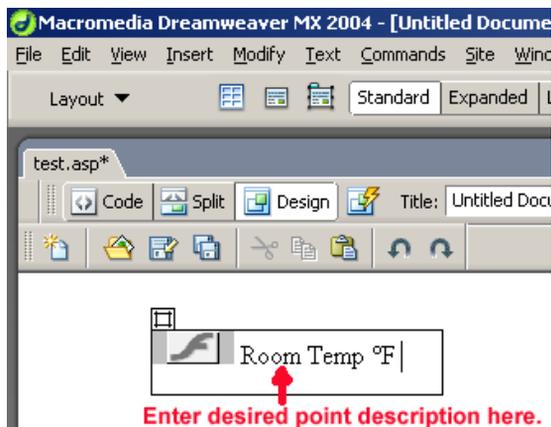

Figure 20
6. As a simple example of generating a system graphic. Under *Files* on the right side of *DreamWeaver*, in the folder *Site-hmi/FX/001/F*, find the *Flash* component named *Fx-PtVal-20x50.swf*. Click/hold on it and drag and drop it onto your layer (Figure 20). A desired description of the information displayed by the flash component can be entered as text by clicking adjacent to the flash component within the layer.